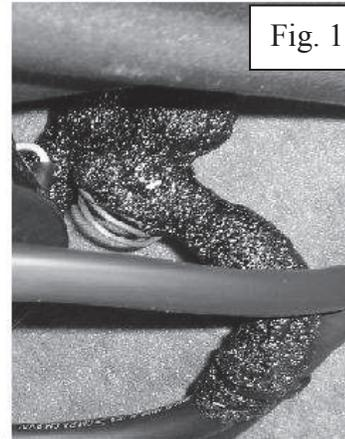

Fig. 1.6
18) After the a/c hoses are connected use the black cork tape to cover the metal fittings, and connections at the evaporator box. See figure 1.6